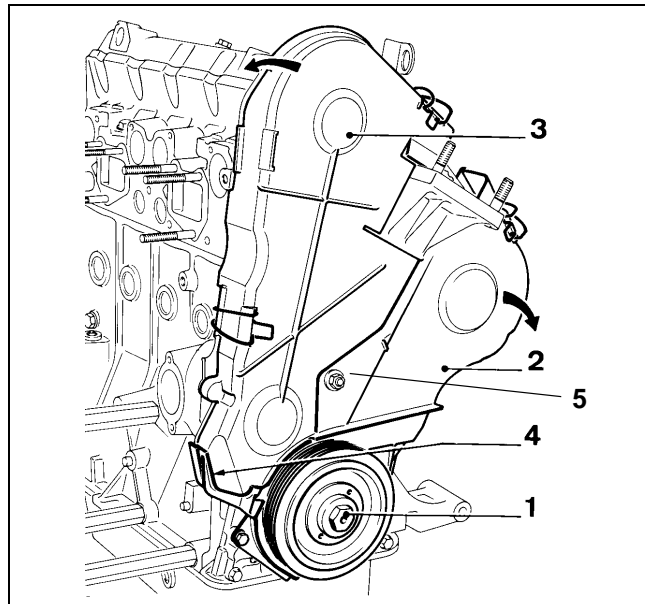

Figure 43
2. Remove the crankshaft pulley bolt (Fig. 43, Item 1) and the pulley. Note: The bolt is secured with thread locking compound and will be difficult to remove.